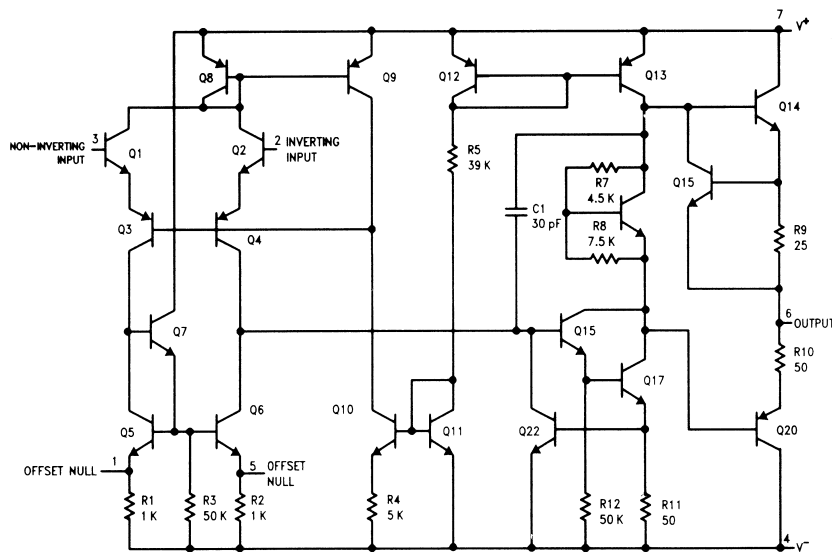

Figure 35.5: Schematic of the internal circuitry of a 741 operational amplifier. Courtesy of National Semiconductors.
35.1 The circuit shown in Figure 35.5 is a schematic version of the circuit which is used in a 741 integrated circuit operational amplifier. Identify each of the circuit block types which are used in the circuit and draw boxes to show which components constitute each circuit block. You should be able to identify five current mirrors, one differential amplifier, one common emitter amplifier, one low pass filter, one emitter follower and one push-pull emitter follower.